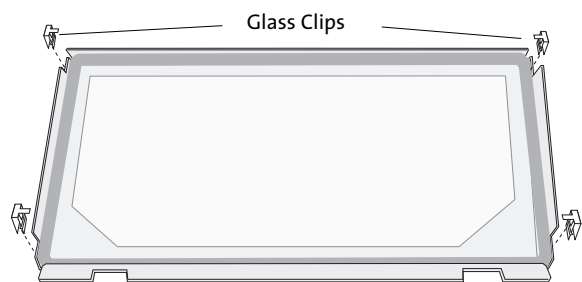

Figure 41. Use small pliers to pry the clips off of the glass panel frame.
3. The glass panel is held in place by four compression clips. Use a screwdriver or small pliers to pry these off the edge of the glass retaining walls. See fig. 41.